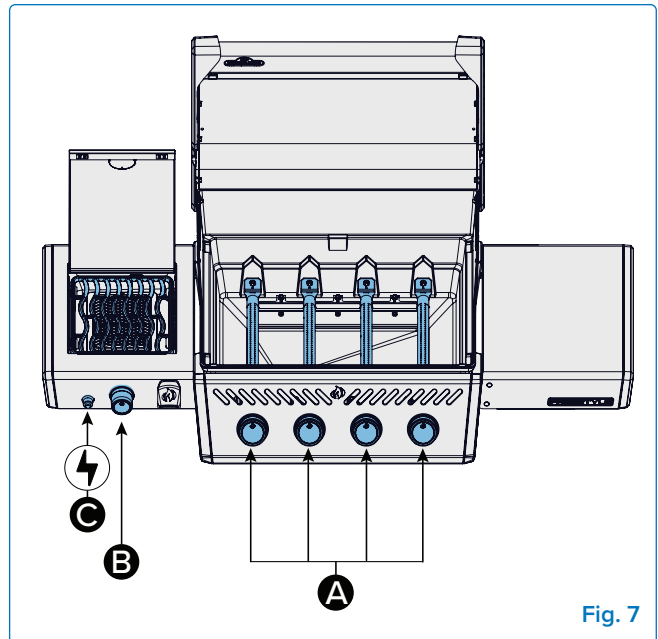
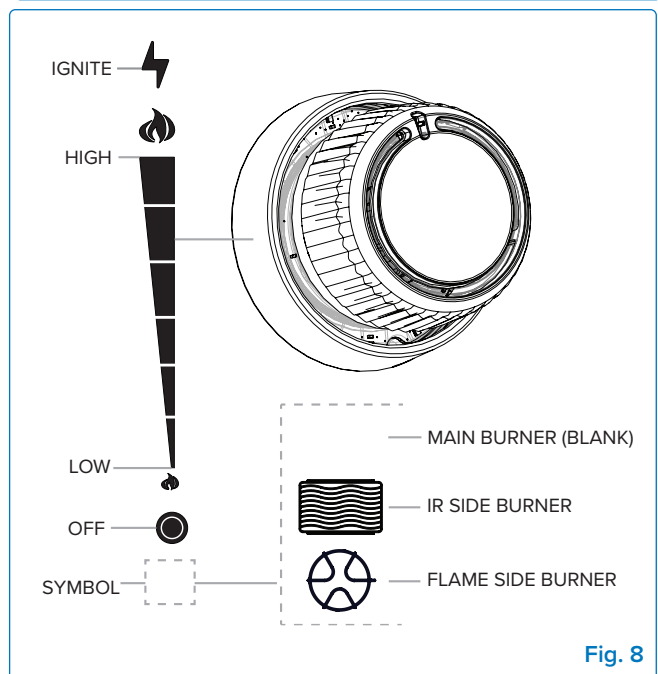

Fig. 7
Fig. 8
1. Open grill lid (Fig. 7).
2. Push and slowly turn any main burner knob counter clockwise to HIGH position until pilot lights. Continue to push down on the control knob until the burner lights and then release (Fig. 7-A, Fig. 8).
2. Push and slowly turn side burner knob counterclockwise to HIGH position until the spark lights the burner. (Fig. 7-B, Fig. 8).
2. Push and slowly turn side burner knob clockwise to HIGH position (Fig. 7-B, Fig. 8).
3. Press and hold igniter button until the burner lights, or light by match (Fig. 7-C).